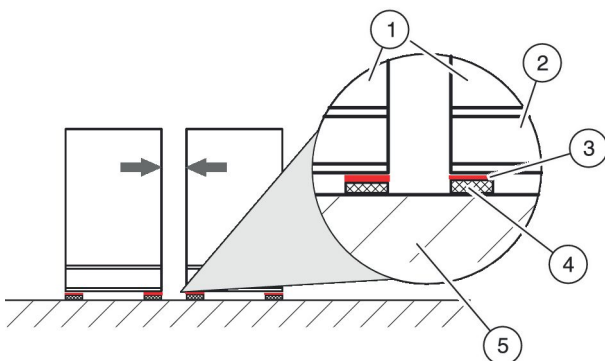

Fig. 13: Unit arrangement with anti vibration elements
Slide plates ( Fig. 13 /3) considerably simplify the process of positioning the AHU casing units ( Fig. 13 /1) on a surface with a high friction coefficient, such as rubber or elastomer sheets ( Fig. 13 /4).
1. ▶ Position the slide plates ( Fig. 13 /3, by others) under the base frames ( Fig. 13 /2) of the AHU casing units ( Fig. 13 /1).